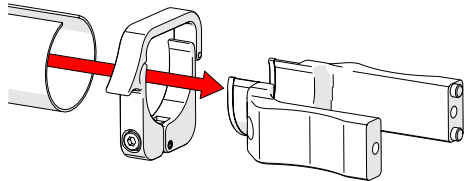

Fig. 143 - Slide tube around mount
1. Loosen the clamp screw using the supplied 3 mm hex driver. Slide the clamp around the tube first, and then slide the tube around the outside of the cable management mount (Fig. 143). Align the tube opening and the cable management clamp opening.